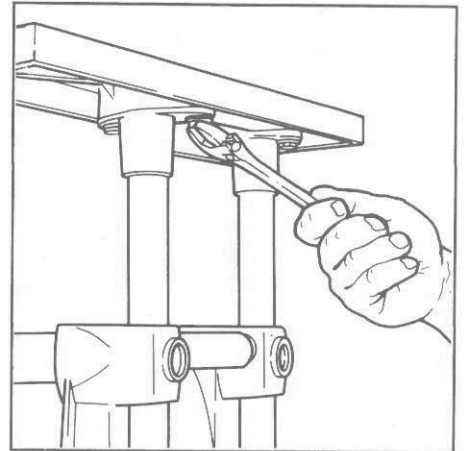

Figure 21. Loosen all four bolts.
c. To **shim** and adjust the extension table, loosen (1-1/2 - 2 turns) all four of the bolts that hold the extension table to its base. (See Figure 21.) Then remove the two bolts on the **low** side of the extension table.